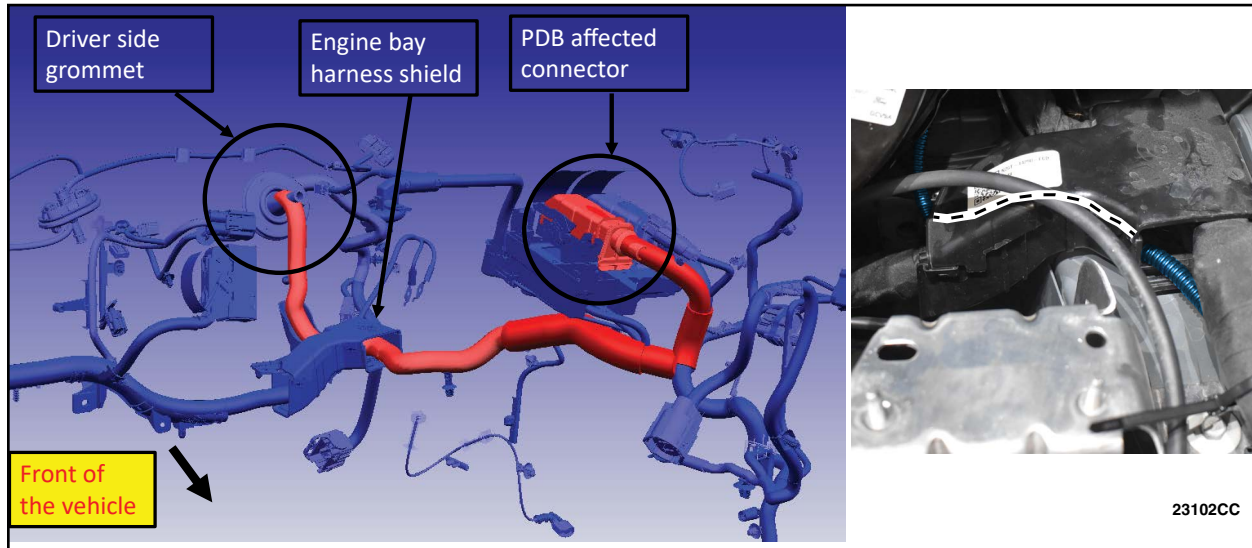

FIGURE 13
16. Route the circuit from the PDB connector to the driver-side grommet. See Figure 13.